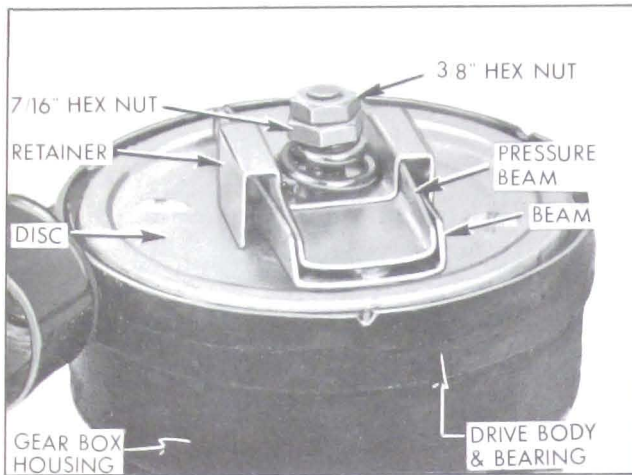

Figure 11-11—Antenna with Cover Removed
3. Remove the 7/16" hex nut. See Figure 11-11.